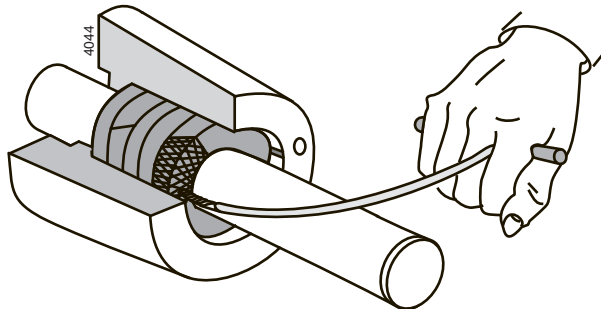

Figure 20: Removal of packing rings with a packing puller.
- For removing old packing rings your supplier can supply a special packing puller. See figure 20.